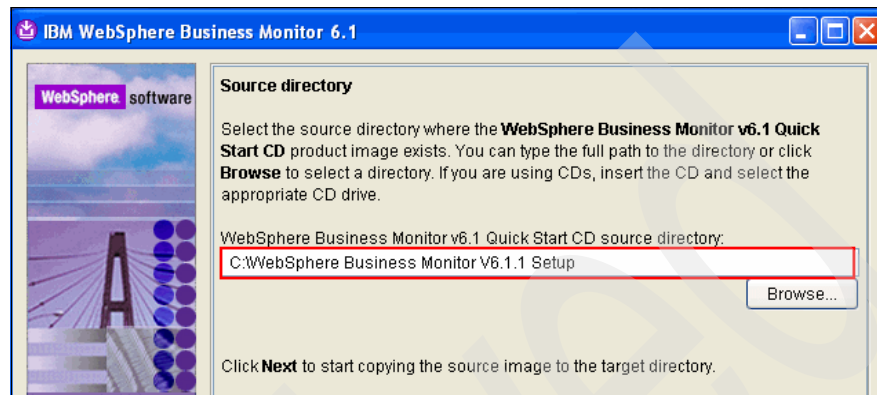

Figure 3-18 WebSphere Business Monitor 6.1 installation preparation: WebSphere Business Monitor V6.1 Quick Start CD source directory
9. In the Source directory panel (Figure 3-18), in the WebSphere Business monitor v6.1 Quick Start CD source directory field, enter the path of the installation image. In our example, we type C:\WebSphere Business Monitor V6.1.1 Setup. Click **Next**.